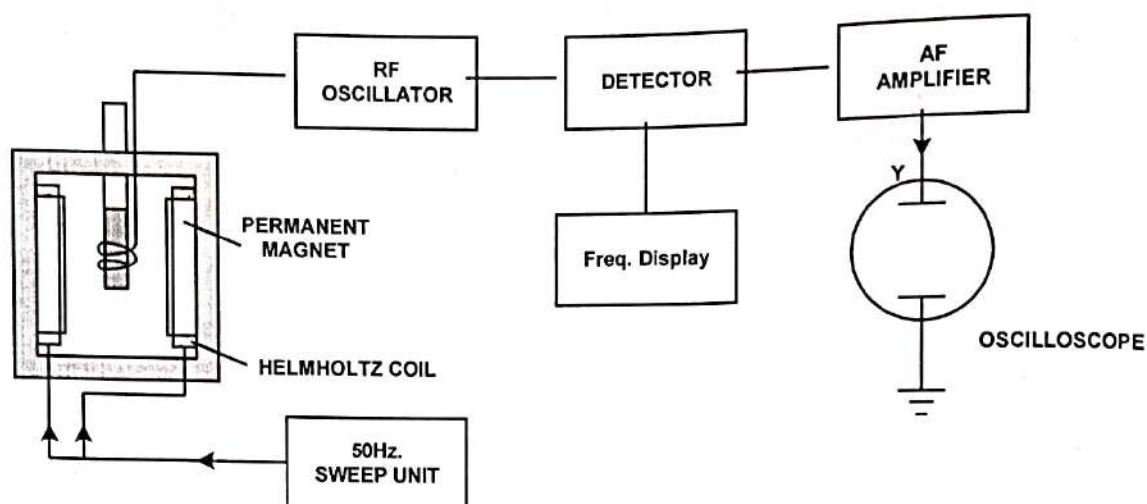

Fig. 3 Block Diagram of NMR Spectrometer
1. A plot of Capacitance v/s Liquid height is shown in Fig. 3.
When the energy is absorbed by the nucleus, then the angle of precession will change. For a nucleus of spin $1/2$, the absorption of radiation "flips" the magnetic moment so that it now opposes the field, Fig 3.